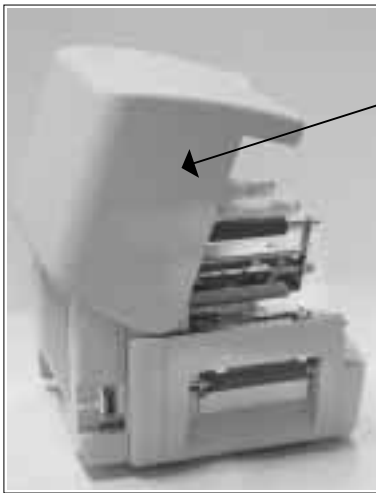

Fig. 6-36
2.	Raise and detach cover for access to mechanical section. Fig.6-36